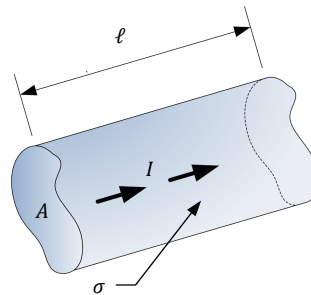

Figure 10. Parameters influencing the resistance (and cost) of a conductor.
Reducing a motor winding resistance could be one way to make it sustain a large inrush current without overheating. However, the **resistance** of a piece of wire is proportional to its length ℓ and inversely proportional to its cross-sectional area A , making it difficult to increase the current carrying capacity of a motor without drastically increasing its cost and size (see Figure 10 and Equation (1)).